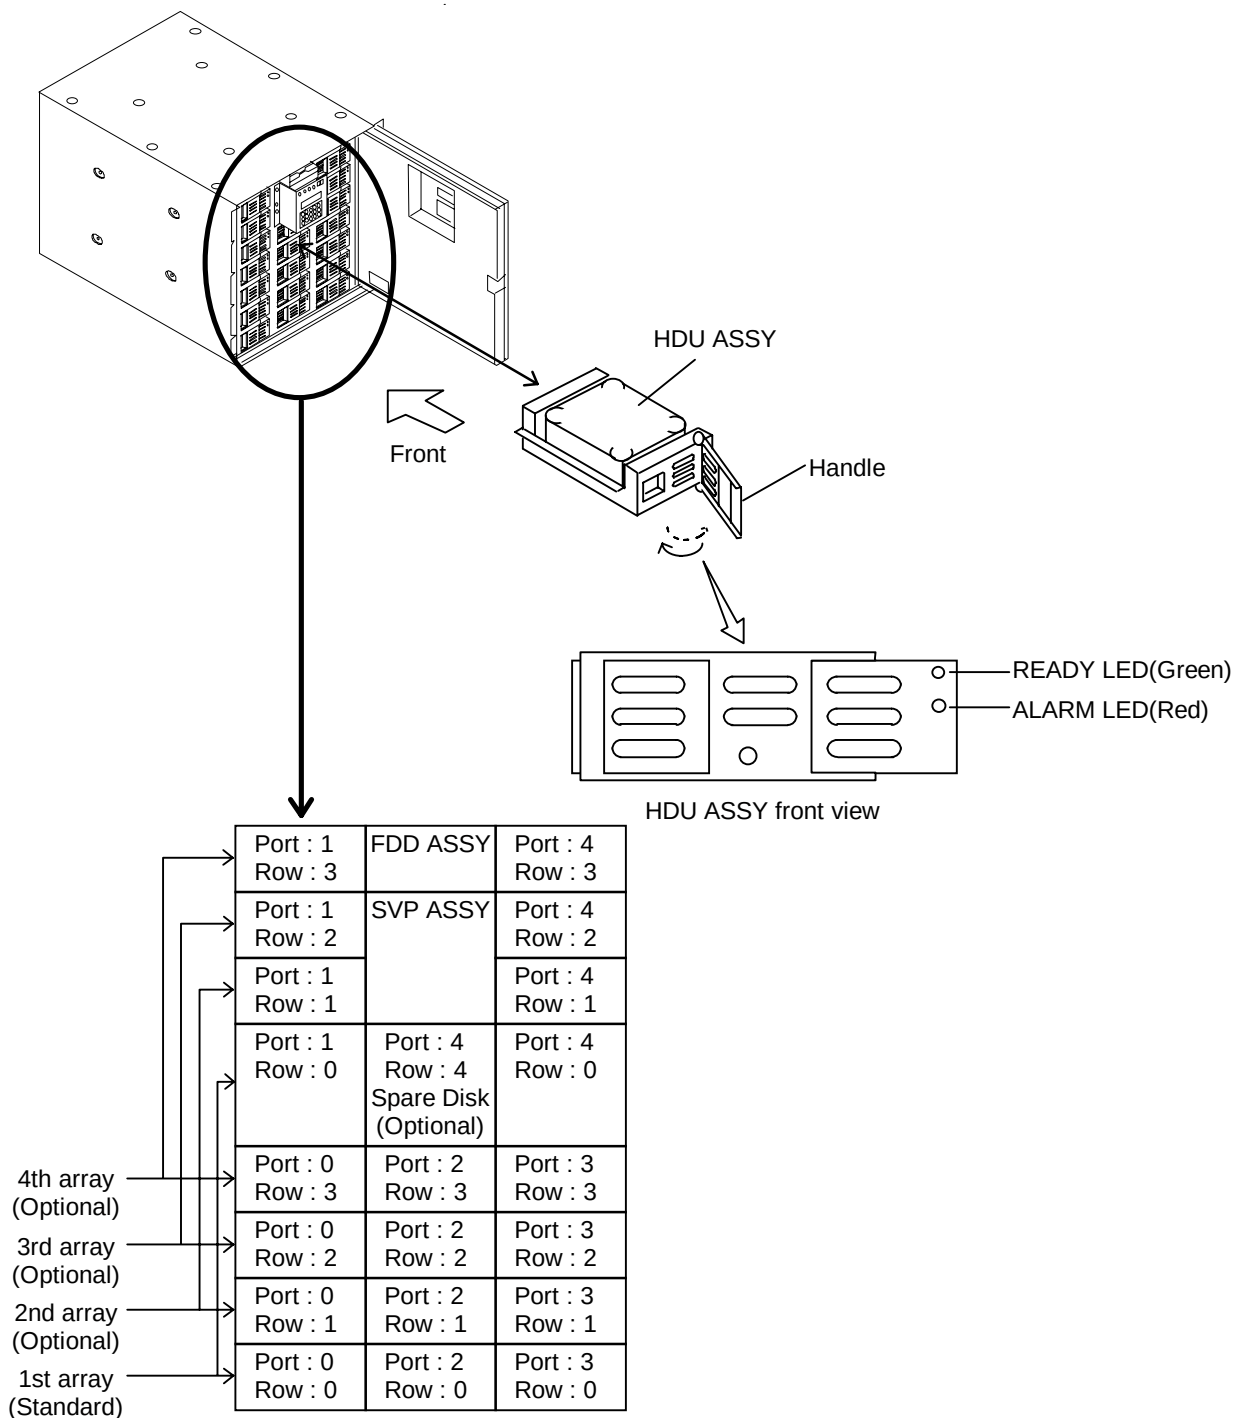

Figure 2.9.1 Installing the HDU ASSY
- (2) Remove the front bezel and open the front panel.
(3) Remove the old HDU ASSY and set the new HDU ASSY. (See Figure 2.9.1 in RW-OPTION0220.)
(4) Set the DIP switches 4 and 6 on the CTL ASSY to down.